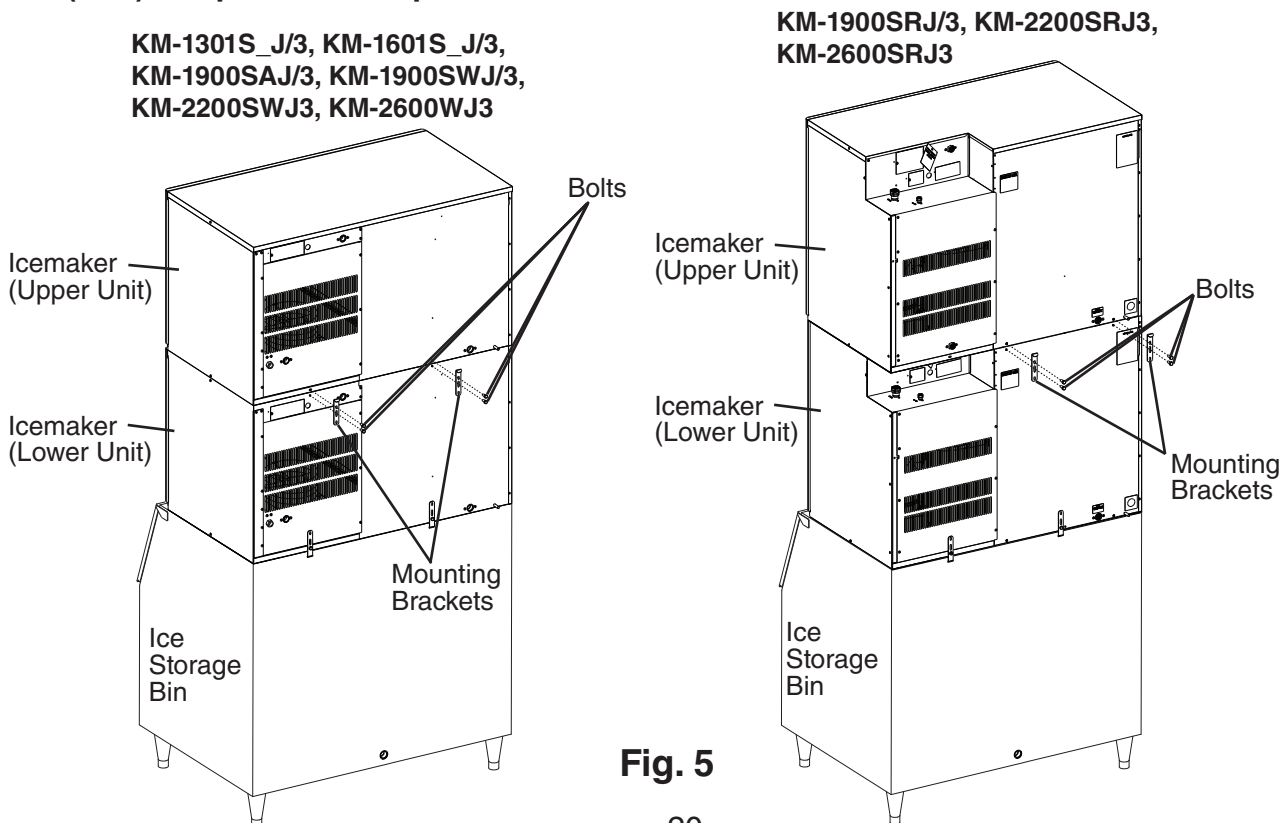

Fig. 5
- 6) Secure the upper unit to the lower unit using the 2 mounting brackets and the bolts provided. See Fig. 5. Note: When stacking air or water models, or KM-1301 or KM-1601 remote models, on top of KM-1900, KM-2200, or KM-2600 remote models, use 5×12 self-tapping screws (not provided) to secure mounting brackets to the upper model.